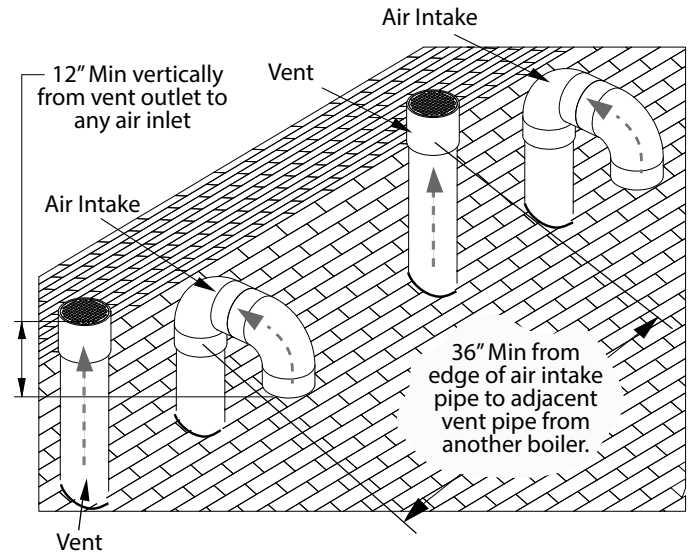
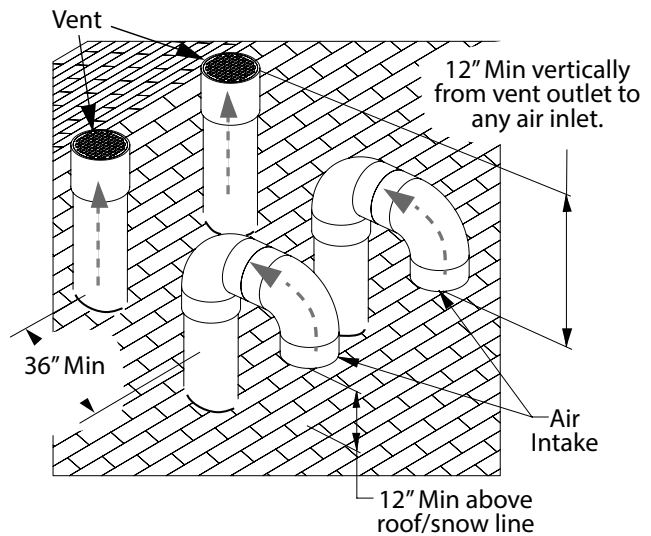

Figure 18. Multiple Vertical Terminations
Figure 19. Multiple Vertical Terminations
6. For multiple terminations, ensure that a minimum vertical separation of 12 inches (30 cm) and a minimum horizontal separation of 36 inches (90 cm) is maintained between each vent terminal and each air intake (See Figure 18 and Figure 19).